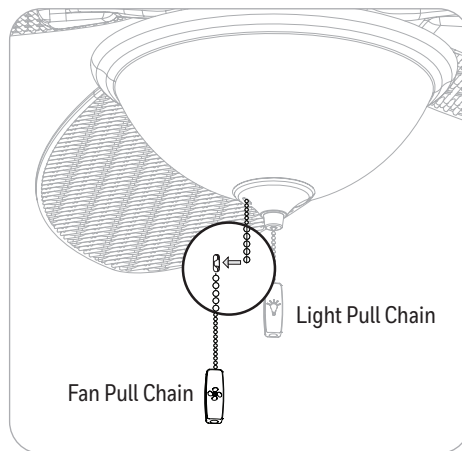

Figure 4.11
11. Attach the pull chain extensions to the pull chains (Figure 4.11).